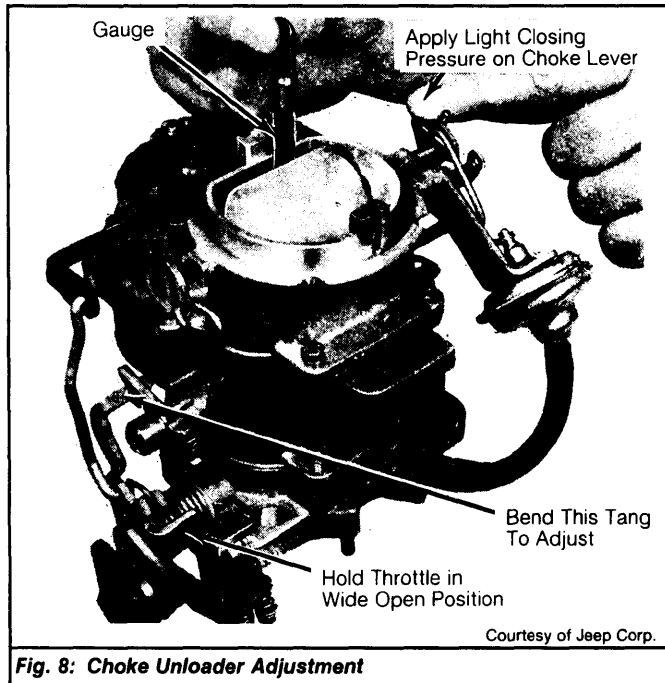

Fig. 8: Choke Unloader Adjustment
1) Open throttle valves wide open. Apply light closing pressure to choke valve. See Fig. 8. Measure specified choke unloader clearance between upper edge of choke valve and air horn wall.